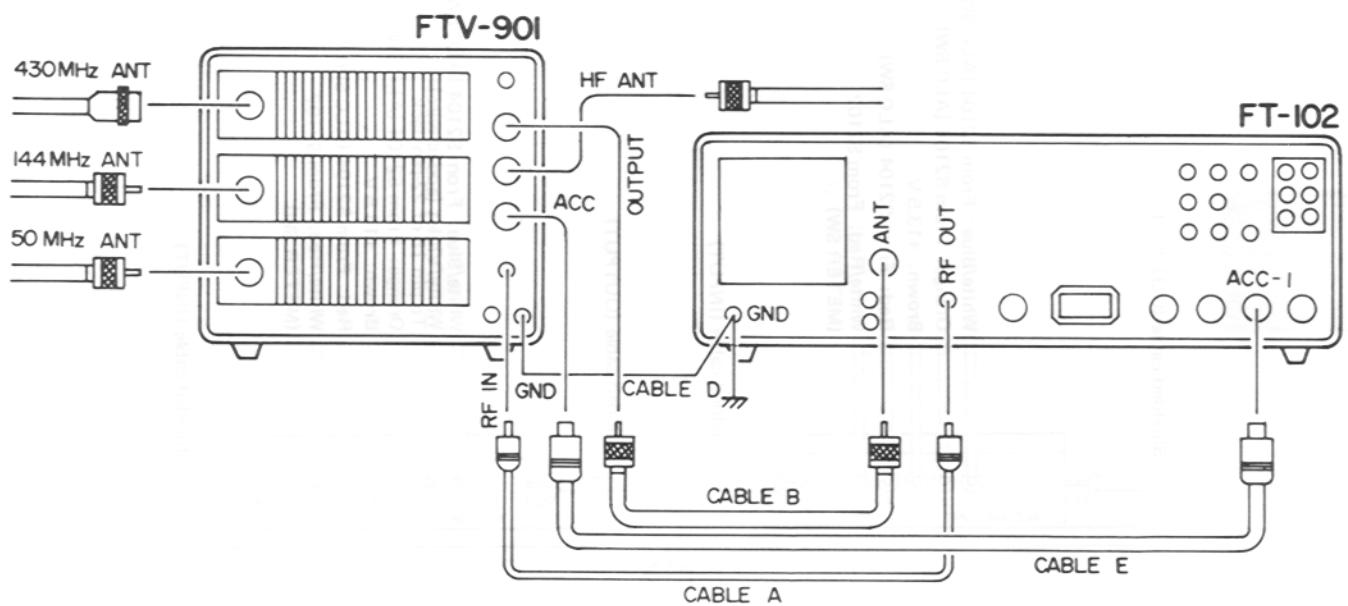

Figure 7
5. Modification is now complete. Replace the top and bottom covers of the FTV-901R and their twelve screws, and connect the transverter to the FT-102 as shown in Figure 7.